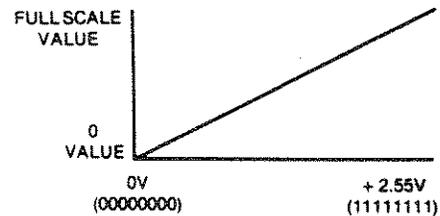

Figure 12-2. Single Ended Outputs
The output, analog or digital, can be single ended (SE) or bipolar. Single ended output levels vary linearly between a 0 value (0V or 00000000) and a full scale value (+2.55v or 11111111); see figure 12-2.